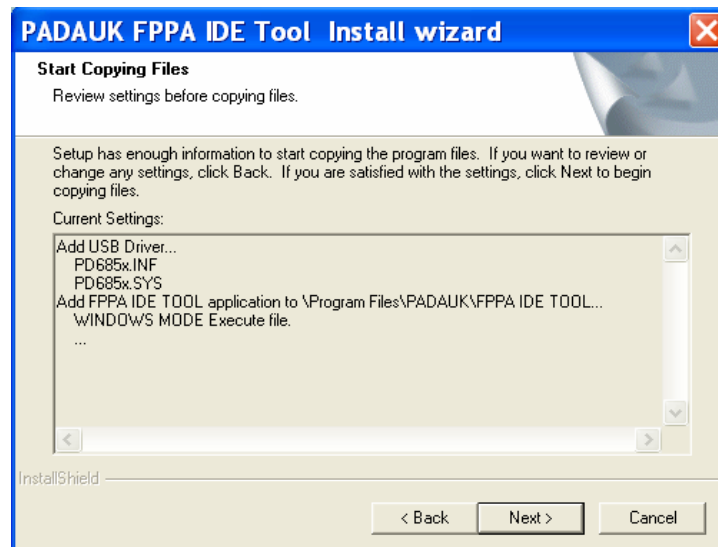

Fig.3-4 : Installation Setting
Step 4 : Choose **【accept】**, then click **【Next】**, the window is shown as Fig.3-4 .